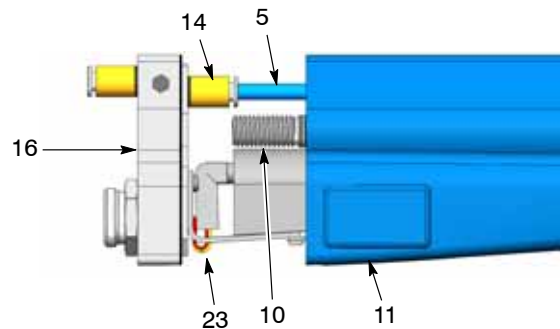
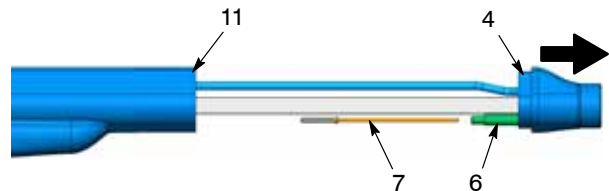

Figure 22 Pulling the Heat Sink away from the Housing
Figure 23 Removing the Resistor
7. See Figure 22. Pull the heat sink (16) away from the housing (11) just enough to disconnect the air tubing (5) from the connector (14).
8. See Figure 23. Pull the adapter (4) away from the housing (11) far enough to access the resistor guide (6).
1. See Figure 23. Inject 0.6 cc of dielectric grease into the resistor guide (6).
3. Insert the resistor (7) into the resistor guide(6).
4. See Figure 22. Connect the air tubing (5) to the connector (14), then push the heat sink (16) back up against the housing while fitting the rear powder tubing channel (10) through the heat sink. Make sure the harness wires (23) are not pinched between the housing (11) and the heat sink.